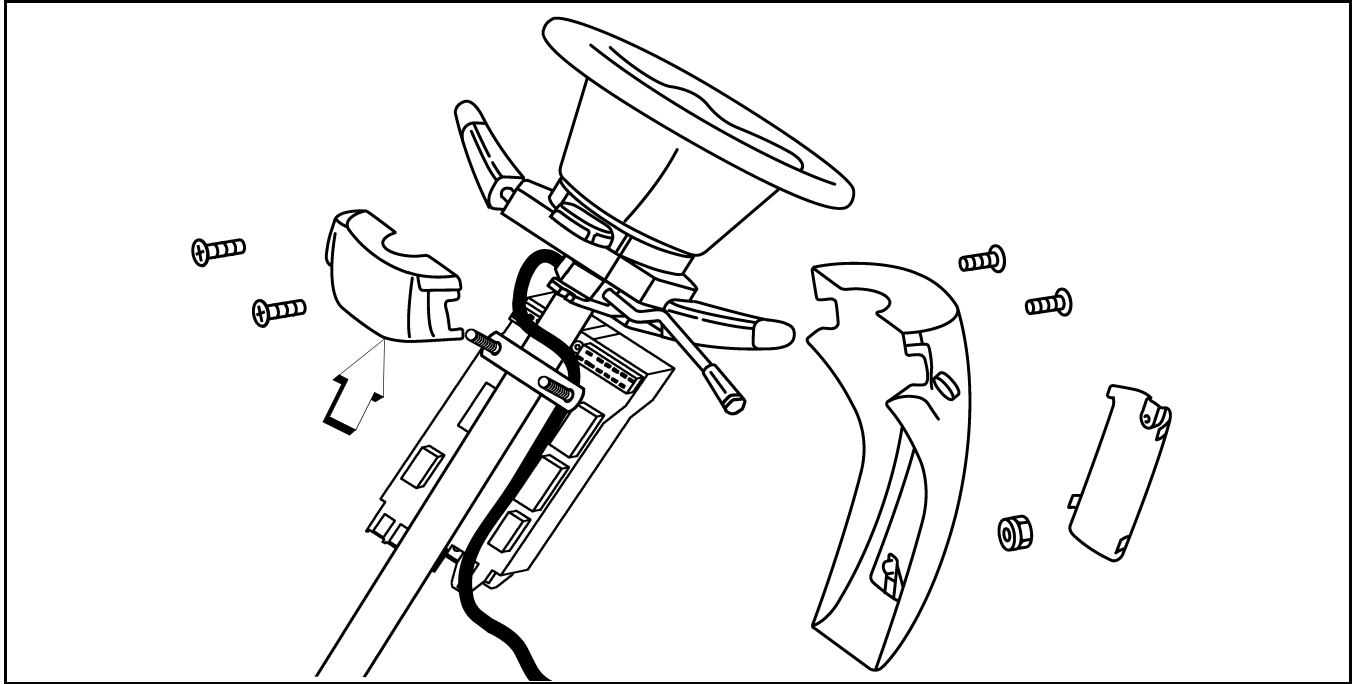

Figure 249 Reinstalling Fuse Block 1 and Upper and Lower Steering Column Covers
20. Reinstall Fuse Block No. 1 and upper and lower steering column covers (Figure 249). The upper cover has a slot on the back (arrow) for the speed control switch lever. Reinstall the M relay and the fuse block locking cover.